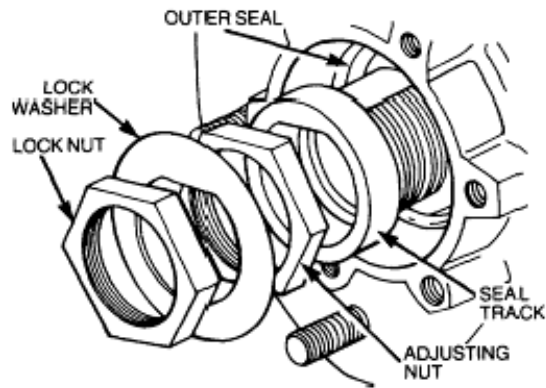

Figure 83 Hub Retaining Nuts
- l. Using special tool hub adjusting spanner (Table 3, Serial 6), remove the locknut (Figure 83).
- m. Remove the lock-washer, adjusting nut and seal track (Figure 83). Discard the lock-washer.